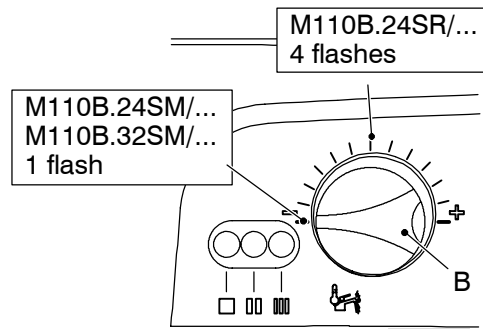

Fig. 9.15
At this step it is possible to visualize the current setting by keeping the reset button C pressed for more than 5 seconds. The lamps E will flash a number of times corresponding to the setting (Fig. 9.15).
- To change the setting turn the knob B on a position corresponding to the boiler models (Fig. 9.15). By turning the knob B, the lock-out signal lamp D blinks quickly (2 per seconds) indicating that the setting has changed and must be memorised.